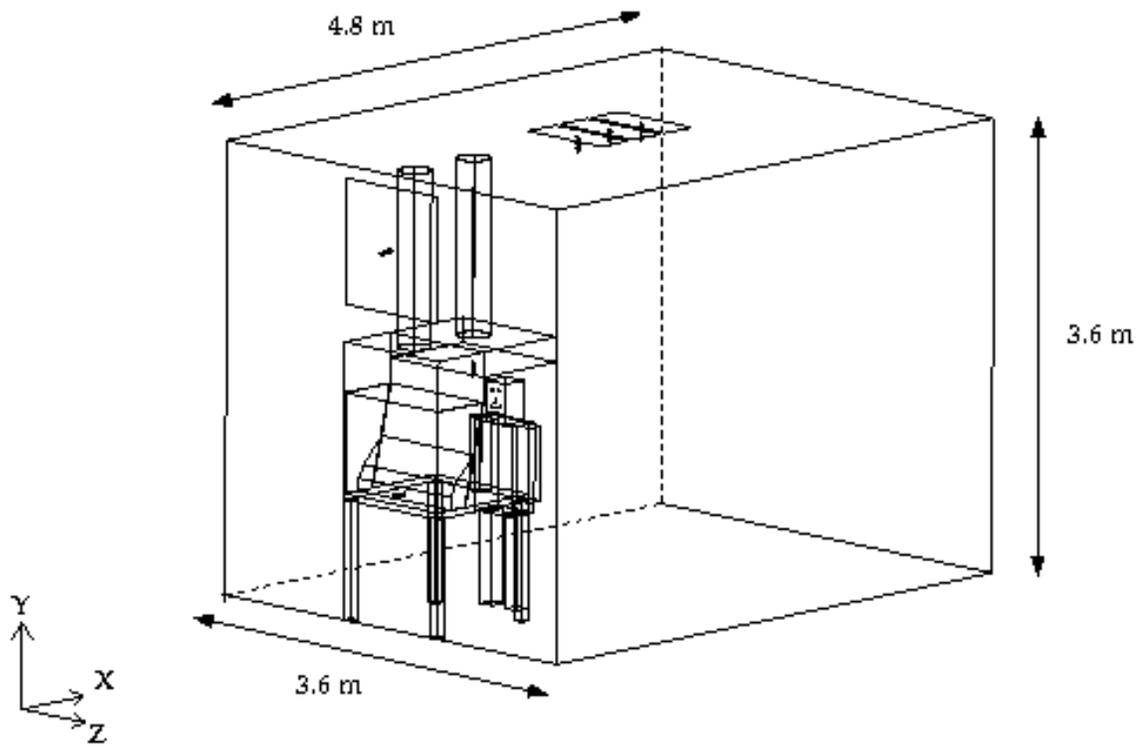

Figure 2.1: Problem Specification
**Problem Description:** The laboratory contains a worktable with a person standing in front of it, as shown in Figure 2.1. A hood over the table is operated in a supply and exhaust mode. An opening above the person supplies a down draft of air, and an exhaust vent in the rear portion of the table pulls air out of the working area. Additional room air supply and exhaust vents are located in the ceiling and upper walls of the room.